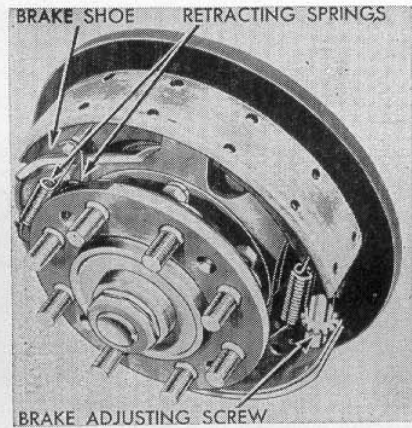

Fig. FO71—Model 8N brake and rear wheel hub. Hub is splined to wheel axle shaft.
**90. WHEEL AXLE SHAFT AND BEARINGS.** Jack up rear end of tractor and remove the rear wheel and tire assembly. Remove brake drum as shown in Fig. FO71 and use a suitable puller to remove wheel hub. Remove bearing retainer stud nuts and pull retainer and brake assembly off axle housing. Pull axle shaft out of axle housing. Wheel axle shaft bearings can be renewed at this time. Reinstall parts in reverse order of removal. Adjust wheel bearings as outlined in paragraph 88A. Tighten axle shaft nut using 450 foot pounds torque and install lock ring. Refer also to Fig. FO70.
brake drum screws and pull drum off shaft Fig. FO71. Remove brake shoe retracting springs and shoes. Reinstall